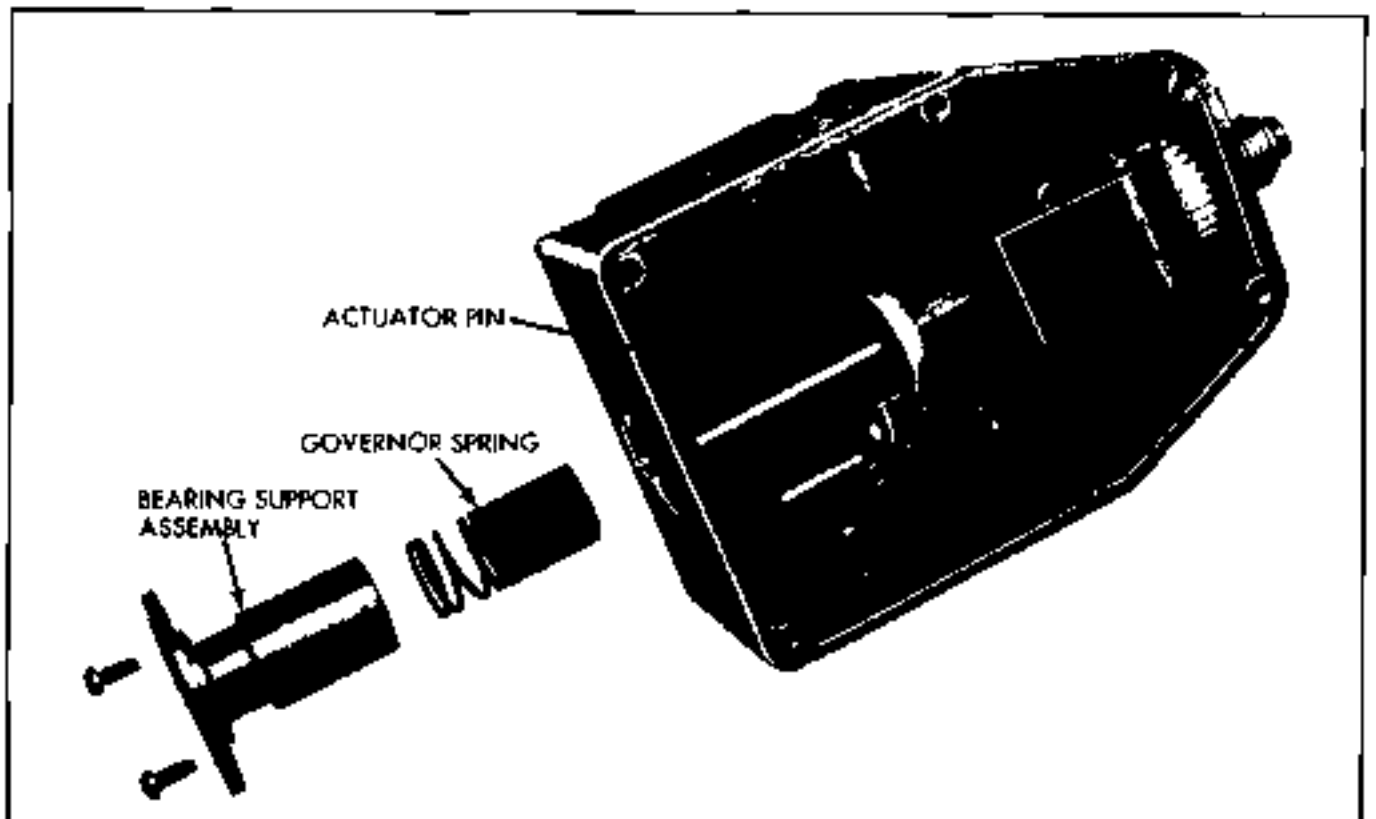
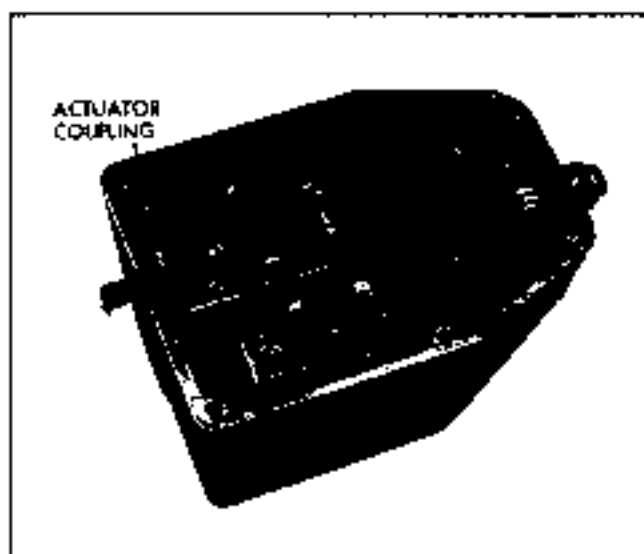

Fig. 15-7 Bearing Support - Removal
Fig. 15-8 Governor Assembly - Removal
2. Remove two screws securing bearing support, rotate support 180° and slide out (Fig. 15-7).
4. Spread governor weights in an up and down position and pry up on actuator coupling with a screwdriver until pin is disengaged from magnet assembly and can be rotated clockwise (Fig. 15-7). Rotate actuator cup 180° and hook the actuator coupling over the top of regulator housing (Fig. 15-8).